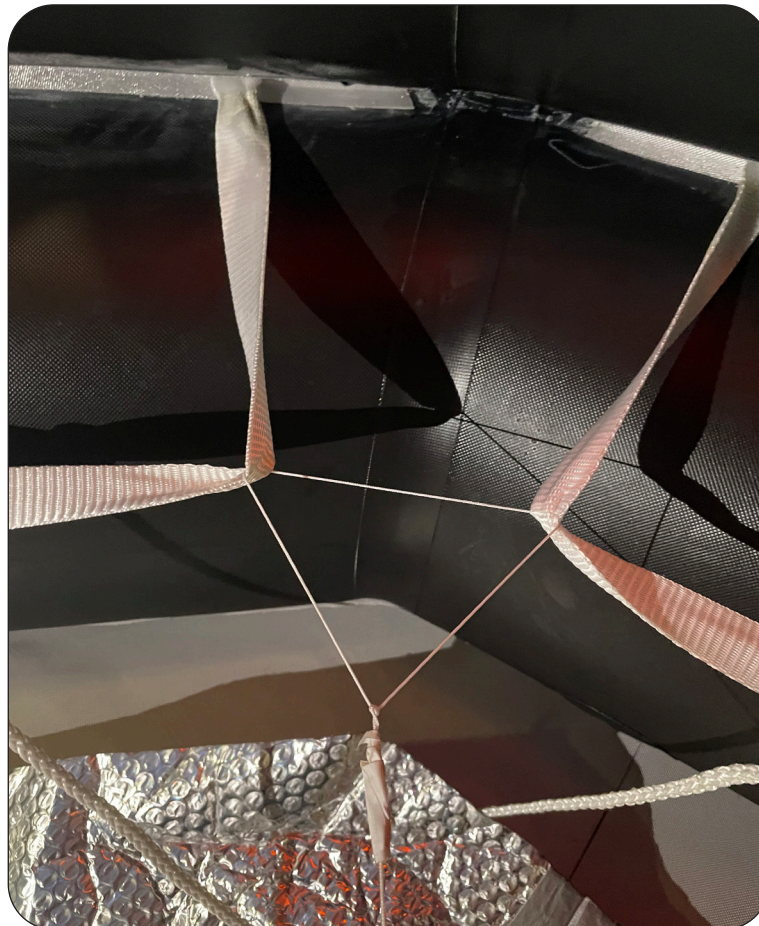

Figure 5
- The attachment point for the light activation line has been moved from the loop patch to the adjacent liferaft lifelines (Refer to **Figure 5**).